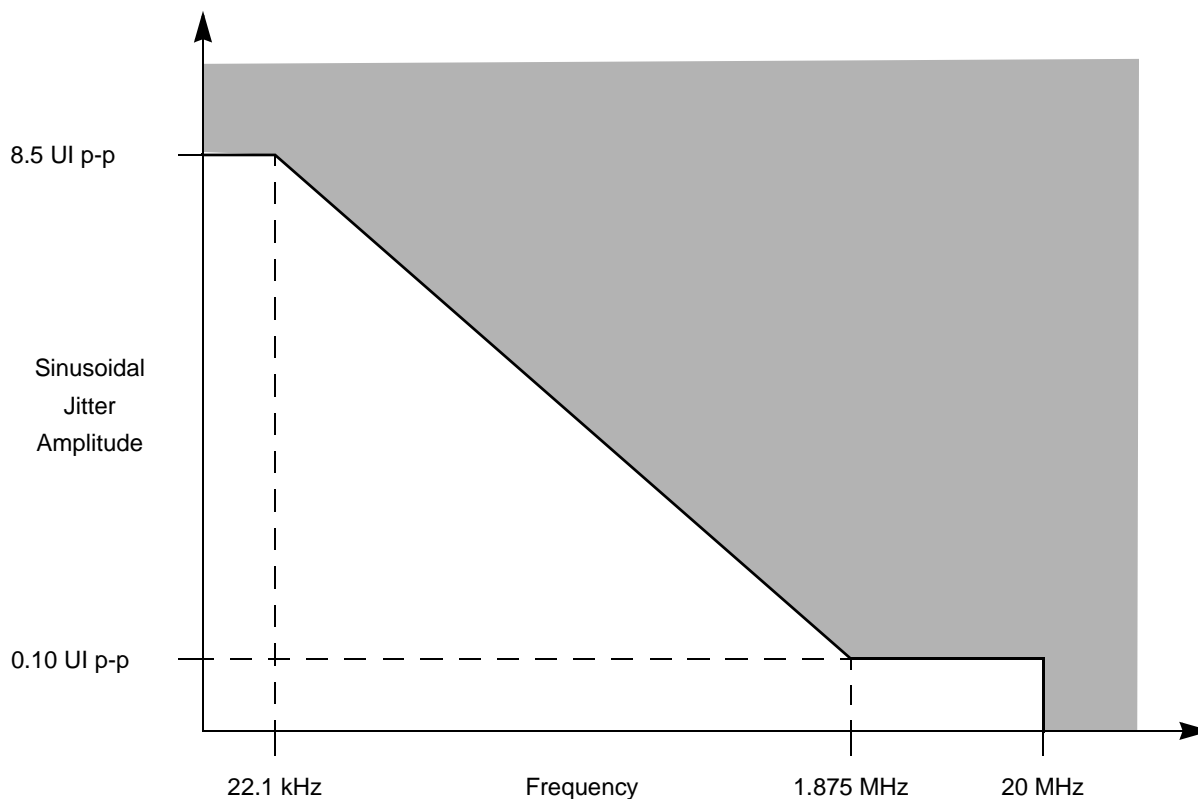

Figure 59. Single Frequency Sinusoidal Jitter Limits
1. Total jitter is composed of three components, deterministic jitter, random jitter and single frequency sinusoidal jitter. The sinusoidal jitter may have any amplitude and frequency in the unshaded region of Figure 59. The sinusoidal jitter component is included to ensure margin for low frequency jitter, wander, noise, crosstalk and other variable system effects.